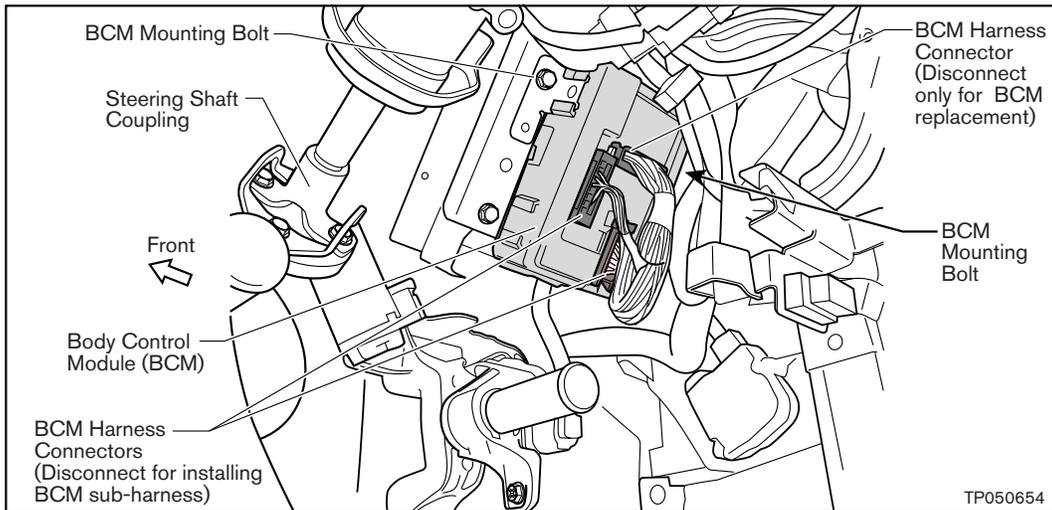

Figure 6
- Remove all three Harness Connectors from the BCM (see Figure 6).
- Remove the two BCM Mounting Bolts and remove BCM (see Figure 6).
- Reconnect the top connector ONLY (as viewed in Figure 6).
- Start by disconnecting ONLY the two vertical Connectors at the BCM (see Figure 6).